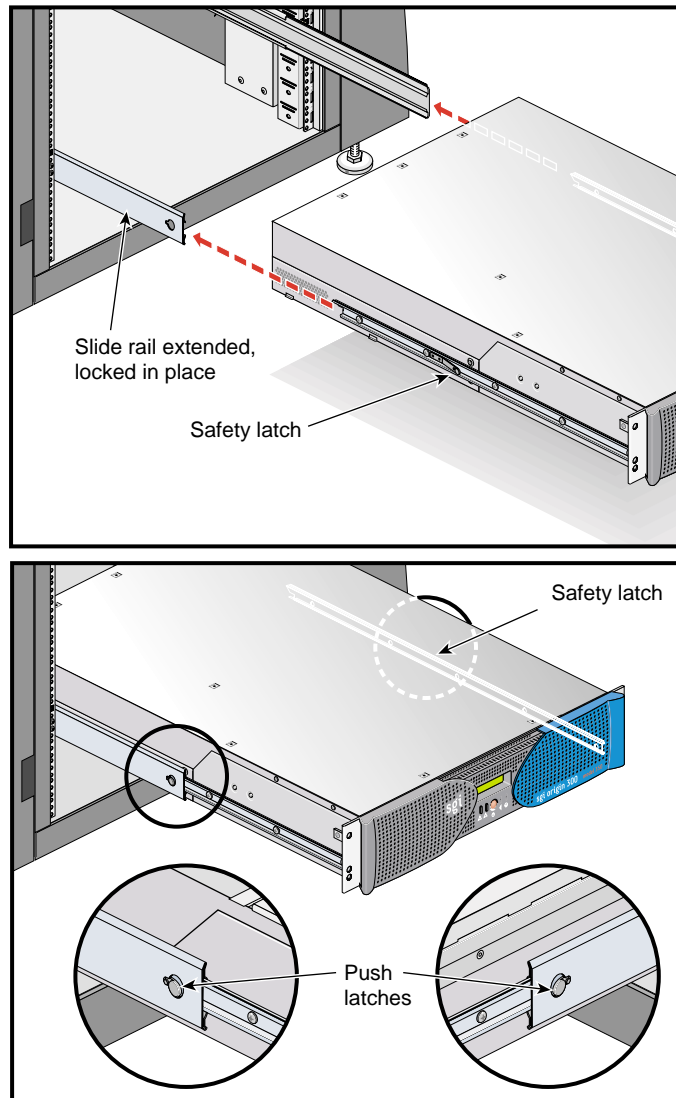

Figure 1-19 Pressing the Safety Latches
4. Press the safety latches on both sides of the module to fully seat the chassis rails into the slide rails (see Figure 1-19).